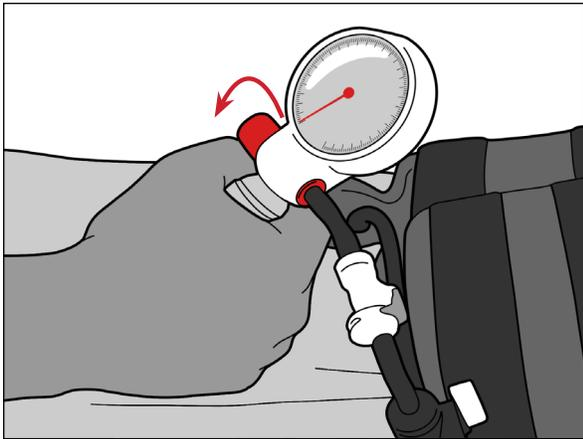

Fig. 14
1. First close the valve by rotating the knob towards you (Fig. 14).